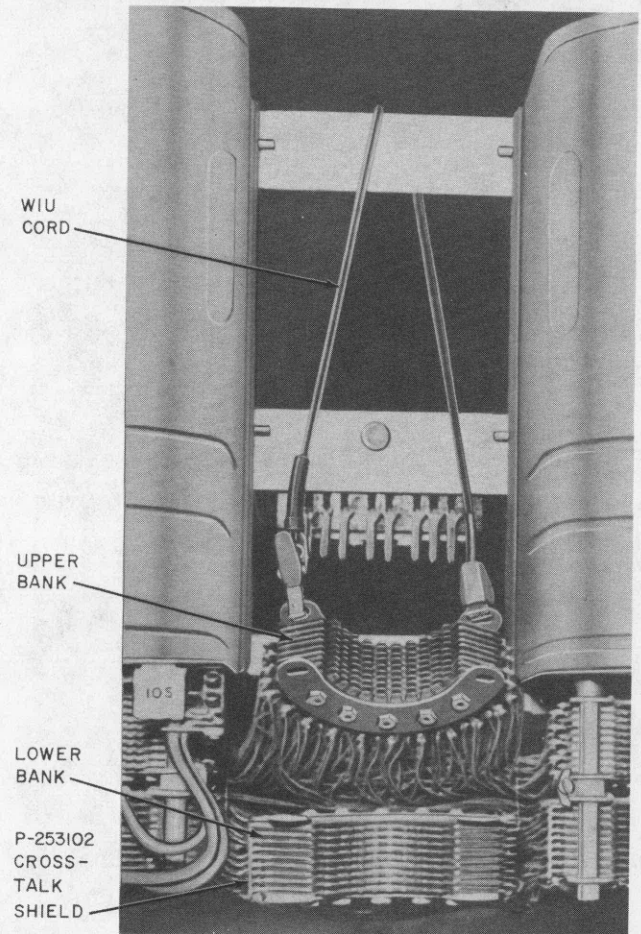

Fig. 7—Method of Supporting Upper Bank
3.13 If the bank is equipped with soldered crosstalk shield bonds, open these bonds with a soldering copper on any level in which parts are to be replaced. (See Fig. 7 and 8.) A KS-6320 orange stick wedged between the bonds will aid in breaking the soldered connections.
3.17 Tilt upward the bank or banks above the bank being worked on and with a W1U or similar cord hold the upper banks out of the way, making use of the upper angle iron as shown in Fig. 7. If the bank being worked on is at the end of the multiple, an additional cord may be required to support the outer end of this bank.